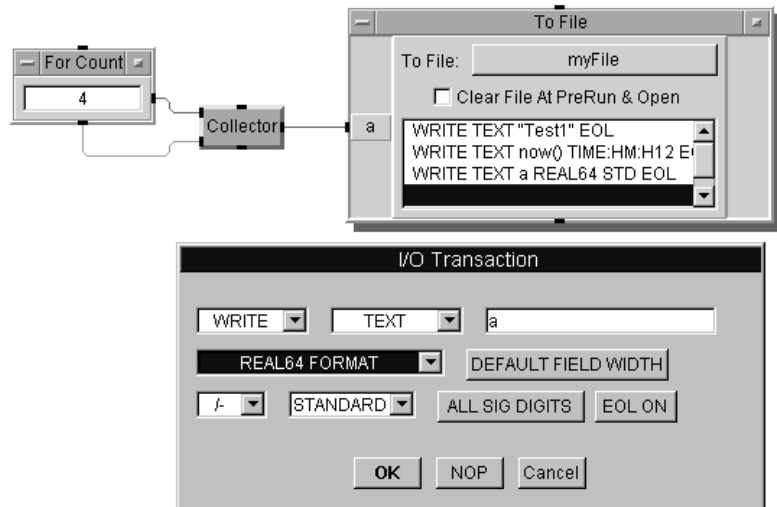

Figure 131 Storing Data Using the To File Object
- 7 Connect the output from the Collector to the input `a` of To File. The program should now look like Figure 131. (The configured I/O Transaction box is also displayed.)